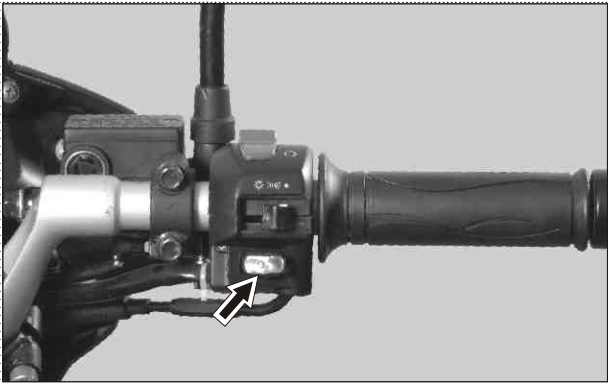

Fig. 5.35
- Electric starter switch is located at the bottom side of switch assembly R. (Fig. 5.35)